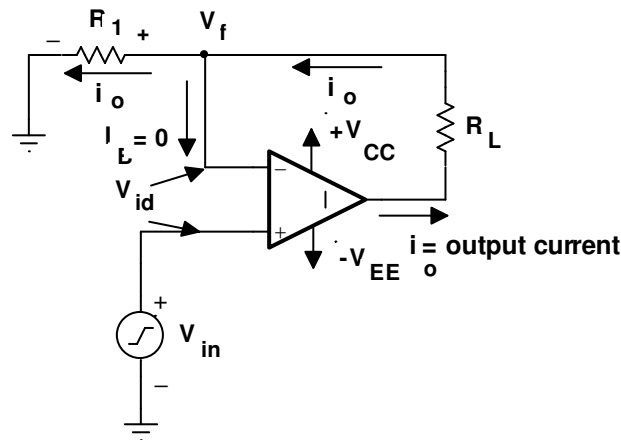

Fig.71(a)
**Ans: (i) Voltage to Current Converter:** Fig.71(a) shows a voltage-to-current converter in which load resistor  $R_L$  is floating (not connected to ground). The input voltage is applied to the non-inverting input terminal, and the feedback voltage across  $R_f$  drives the inverting input terminal. This circuit is also called a current-series negative feedback amplifier because the feedback voltage across  $R_f$  (applied to the inverting terminal) depends on the output current  $i_o$  and is in series with the input difference voltage  $v_{id}$ .